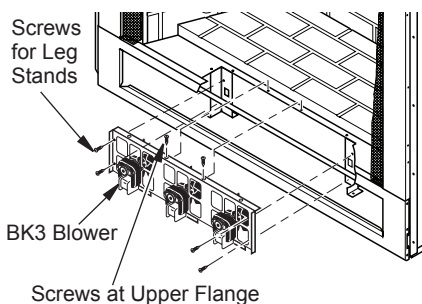

Figure 19 - Mounting BK3 Blower
1. Place BK3 fan assembly between two leg stands with fan blades pointing toward rear of fireplace (see Figure 19).
2. Using screws provided, fasten upper flange of blower bracket to hearth pan and end flanges to leg stands (see Figure 19).